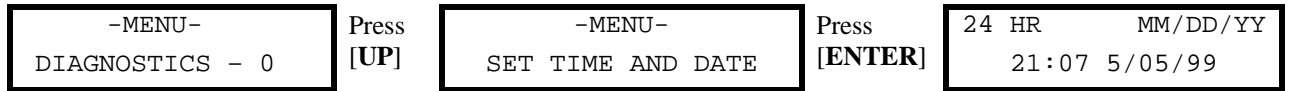

Figure 15 – Date and Time Menu.
1. From the Current Operating Mode Display, press [MENU]. The {-MENU- / DIAGNOSTICS-0} screen will display (follow along with *Figure 15*).